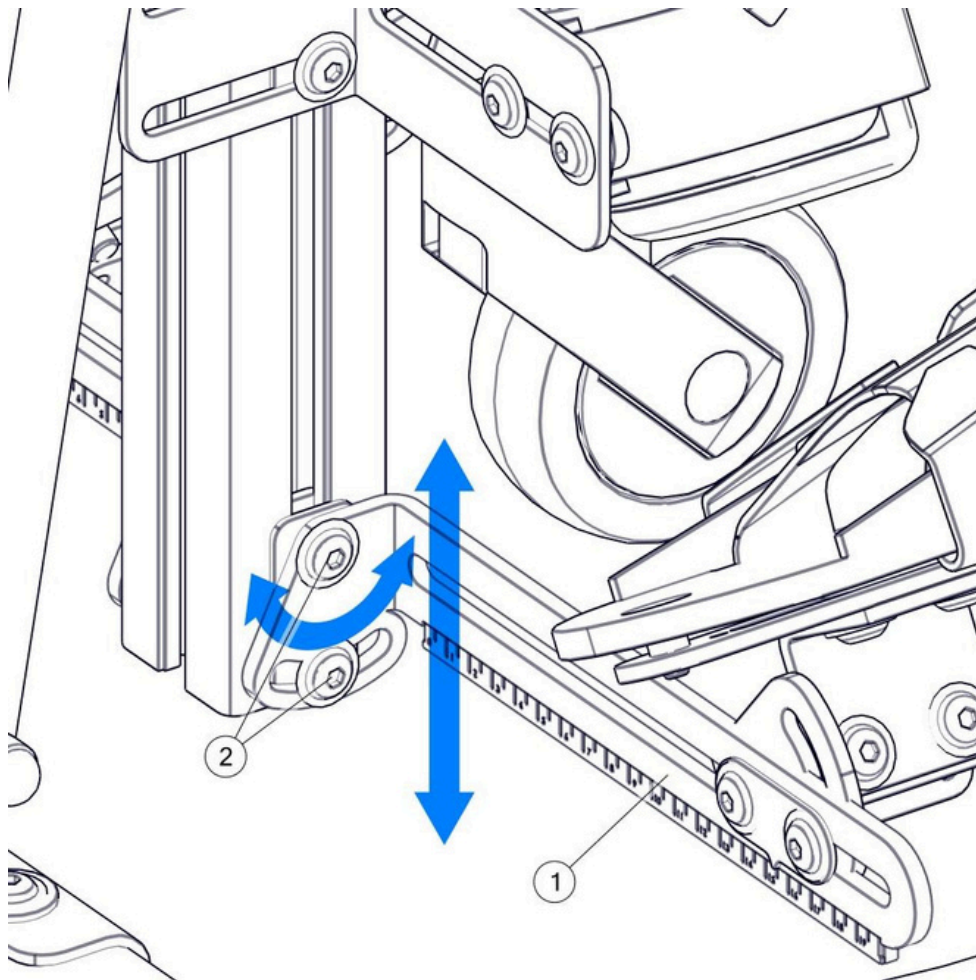

Figure 12
7.8.1. Adjustment of height and tilt of foot platforms - Figure 12